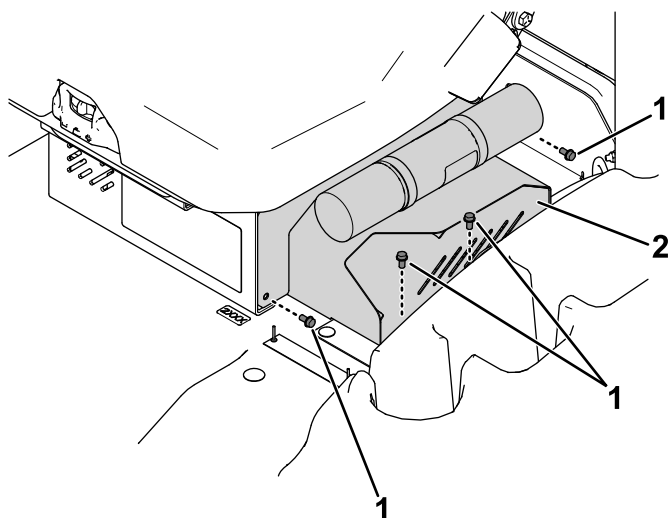

Figure 14
2. Remove the charger-cable cover (Figure 14).
- Install the charger-cable cover (Figure 14).